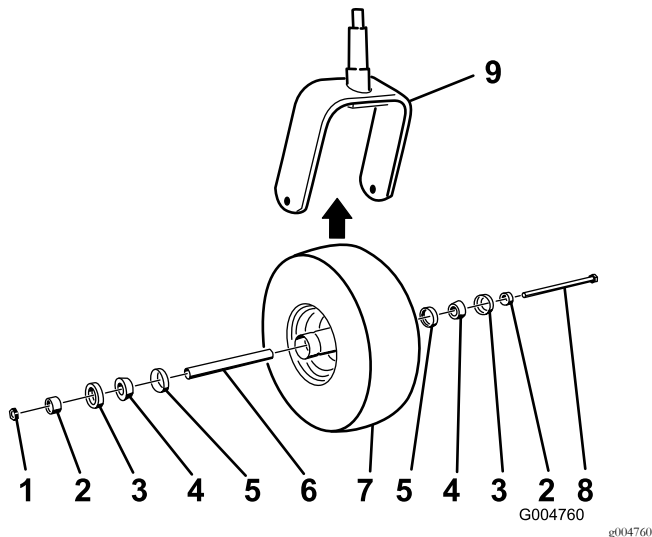

Figure 46
2. Remove the locknut from the bolt (Figure 46).
5. Assemble the caster wheel by pushing the cone bearings and seals, packed with grease, into the wheel hub, positioned as shown in Figure 46.